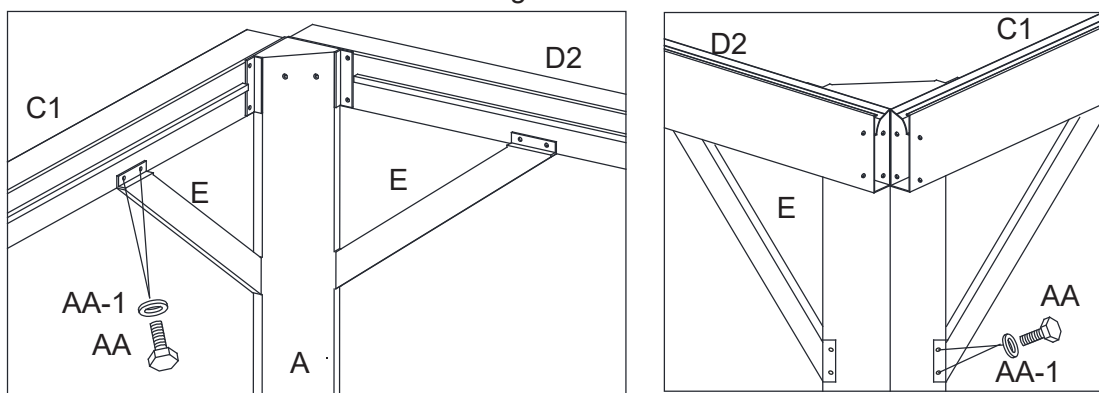

Figure 5-2
5.2. Attach Support Bars (E) to Corner Post (A) and to Lintels (C1/C2) with Bolts (AA) and washer (AA-1). See Figure 5-2.